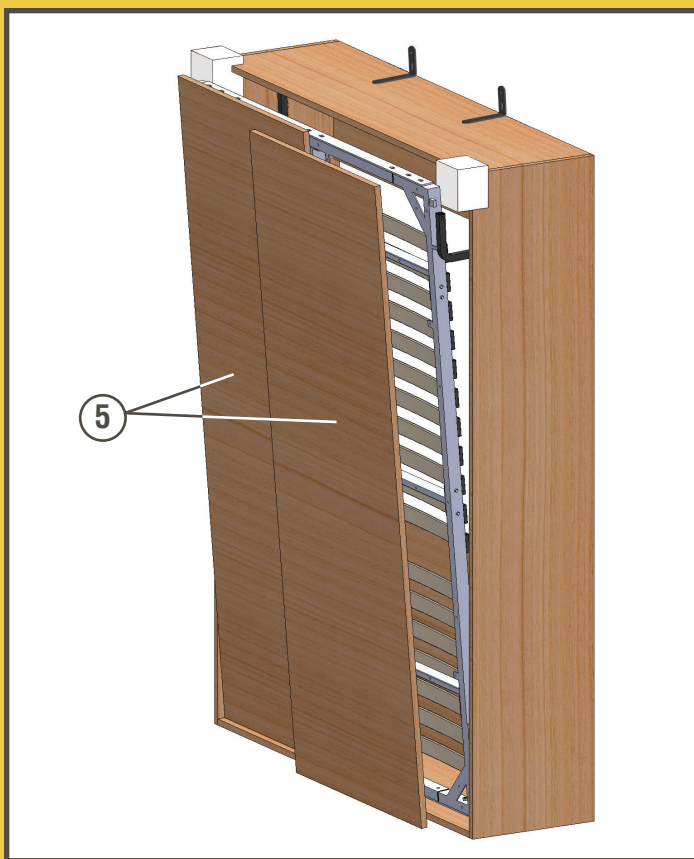

Fig. 17
4. Hook the Door Panel(s) (5) onto the frame and push down until they are firmly in place. Center and fine-tune the position of the Door Panel(s). **Fig. 17.**